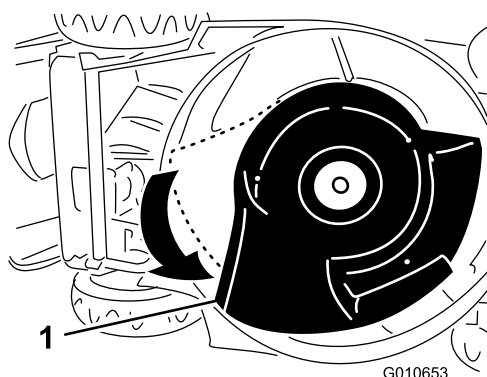

Figure 1
5. Remove the three screws that hold the belt cover in place (Figure 1).
6. Rotate the belt cover counterclockwise to move it out of the way (Figure 1).